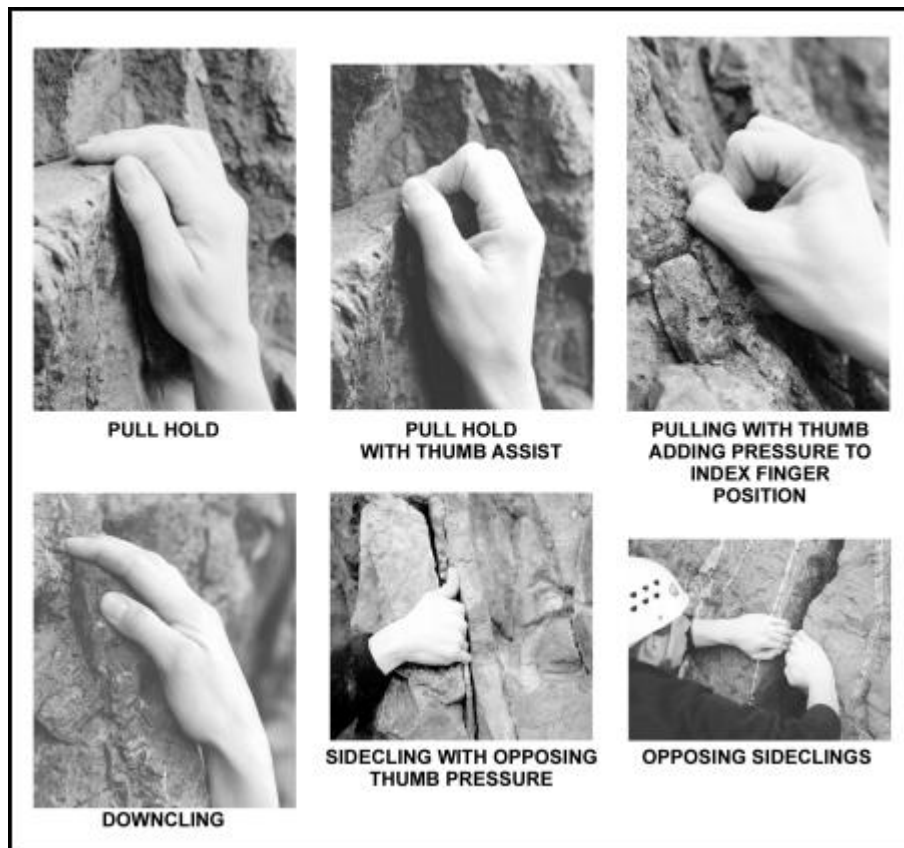

Figure 6-9. Examples of pull holds.
(2) ***Pull Holds.*** Pull holds, also called "cling holds," which are grasped and pulled upon, are probably the most widely used holds in climbing. Grip plays more of a role in a pull hold, and, therefore, it normally feels more secure to the climber than a push hold. Because of this increased feeling of security, pull holds are often overworked. These are the holds the climber has a tendency to hang from. Most pull holds do not require great strength, just good technique. Avoid the "death grip" syndrome by climbing with the feet. (Figure 6-9 shows examples of pull holds.)